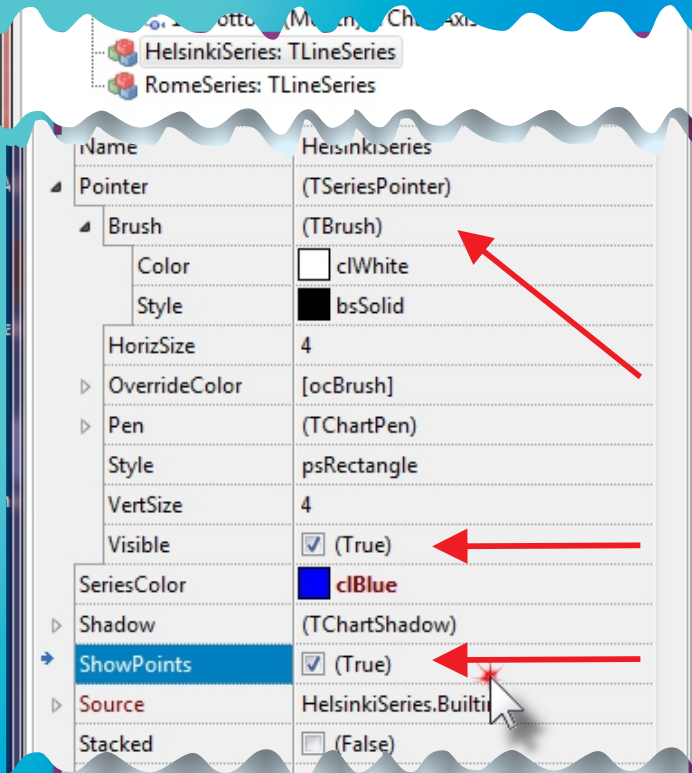

Figure 23: "ShowPoints" of each series. Set the color of the data points to the color of the connection lines by changing "Pointer.Brush.Color" of each series.
- Show the individual data points of each series by turning on the property "ShowPoints" of each series. (See Figure: 23 on the next page)